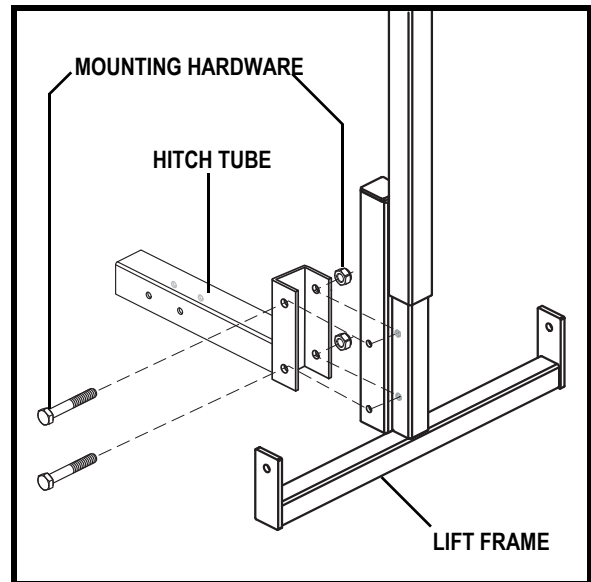

Figure 1. Hitch Tube Assembly
1. Remove the pre-assembled hardware from the hitch tube and use it to attach the hitch tube to the lift frame. See figure 1.